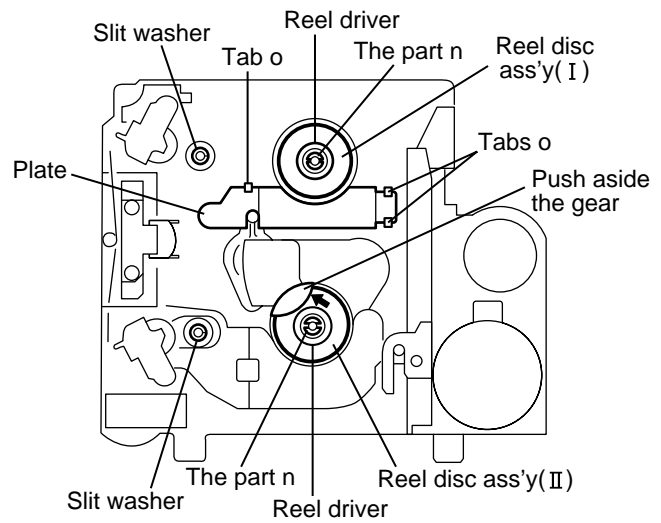

Fig.12
(See Fig.12 to 14)
■ Removing the reel disc ass'y(II) (See Fig.12 to 15)